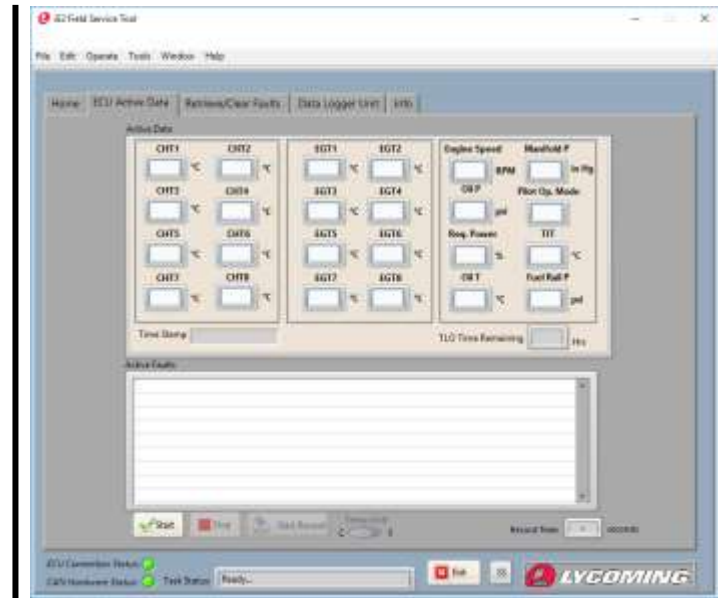

Figure C-25
2. Click on the ECU Active Data tab (Figure C-25).
3. Click the **Start** button on the “ECU Active Data” screen (Figure C-25) to display active faults data from the ECU.